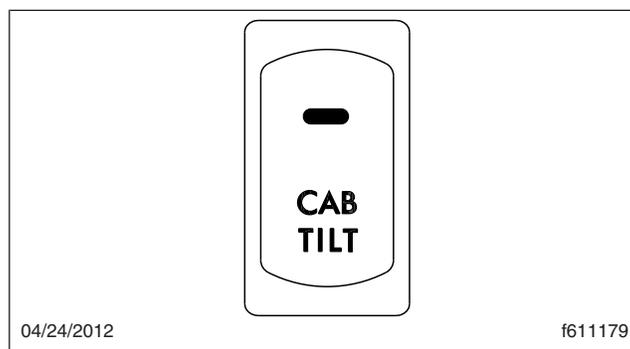

Fig. 15, Cab Tilt Switch
2. Secure all loose articles in the cab and bunk, then activate the tilt system power switch on the dash. See Fig. 15.